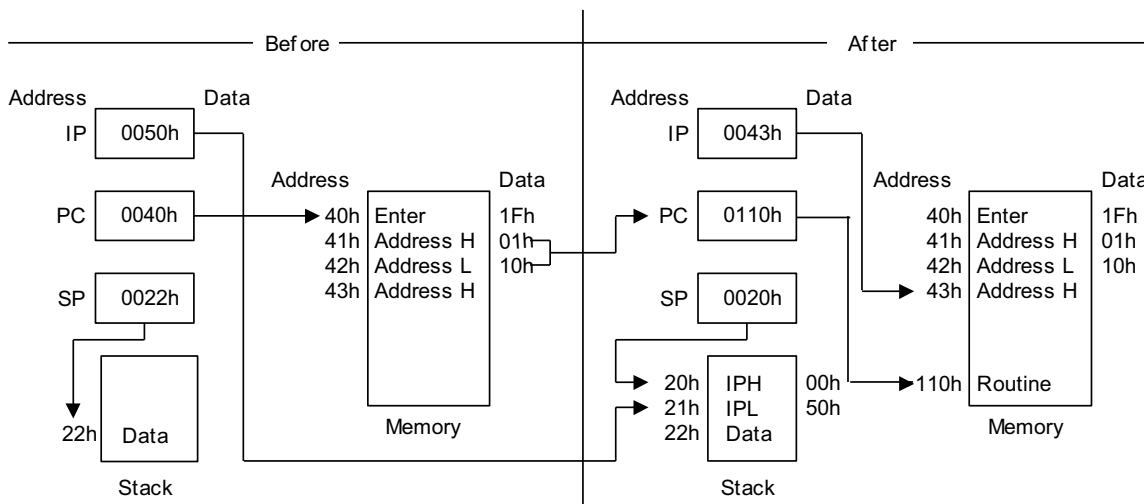

Figure 48. How to Use an ENTER Statement
**Example** Figure 48 shows an example of how to use an *ENTER* statement.